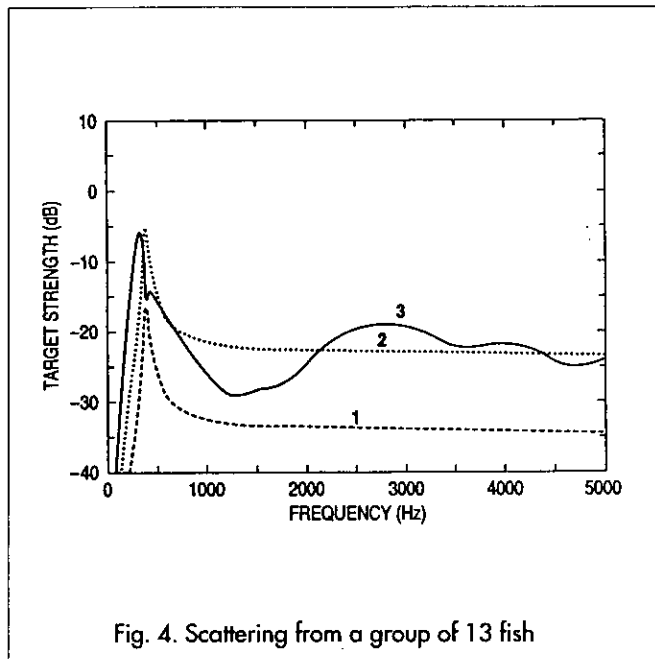

Fig. 4. Scattering from a group of 13 fish
The first example (Figure 4) is a small ensemble of 13 fish, each of length $L = 40$ cm. This was constructed from a cube of 9 fish with 4 additional single fish placed off the two sides and the front and back. Swimbladder volumes are roughly 4 - 5 % of fish volumes, corresponding to a bladder radius of about $a = 0.05 L$. Accordingly, for these fish, a swimbladder radius of $a = 2$ cm is adopted. The fish flesh viscosity is $\xi = 500$ poise [5]. The value of d is 40 cm and σ is 4 cm. The mean school depth is 50 m. The school target strength is calculated between 0 and 5 kHz. Curve 1 represents the target strength of a single fish placed at the centre point of the school, calculated using the Love model. A peak of approximately -17 dB is seen at about 400 Hz. Curve 2 shows the target strength for the 13 fish calculated by incoherently summing together the scattering cross sections for the individual fish and thereby neglecting multiple scattering and phase difference effects. The values of curve 2 are equal to those of curve 1 plus about $10 \log_{10} (13)$ (ie ≈ 11 dB), which is the expected incoherent enhancement. Curve 3, the school model prediction, has several notable features. First, the resonance peak is downshifted below that of the individual fish. This effect has been observed previously for other types of resonators [10, 11]. Second, the peak value of curve 3, while greater than that of curve 1 by about 10 dB, is less than that of curve 2 by about 1 dB. Since the dimensions of this school are much less than the acoustic wavelength at resonance, fully coherent summation of the scattered wave fields should cause the peak of curve 3 to be enhanced by $20 \log_{10} (13) (\approx 22$ dB) over that of curve 1. In fact, the target strengths of individual fish in the school are strongly suppressed by multiple